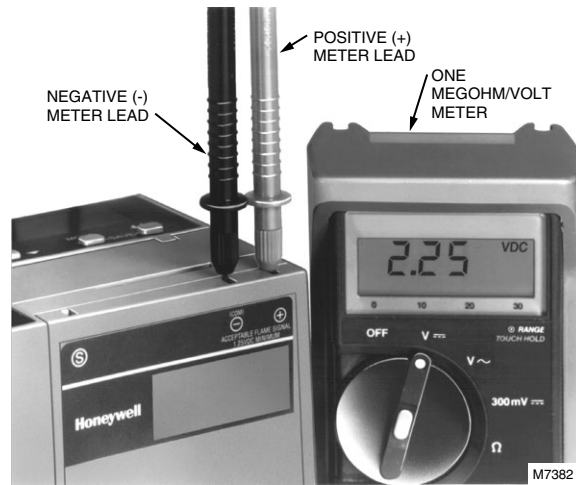

Fig. 8. Measuring flame signal voltage of 7800 SERIES control.
- 2 Insert the positive (red) meter probe into the positive (+) jack of the 7800 SERIES control amplifier and the negative (black) probe into the negative (-Com) jack of the amplifier (see Fig. 8).